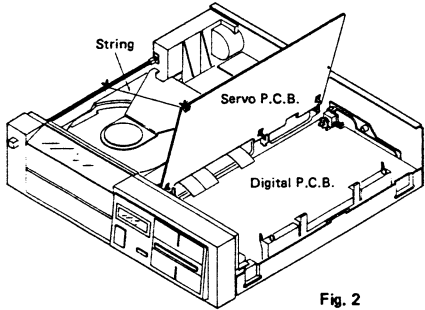

Fig. 2
4. When checking the soldered parts on the servo P.C.B., raise the P.C.B. as in Fig. 2. (Tie the power switch rod to the servo P.C.B. with a string.)